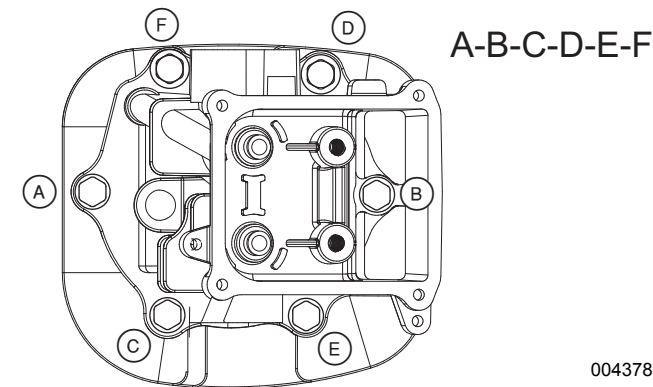

Figure 13-14. Cylinder Head Torque
- 3. See Figure 13-14. Tighten head bolts in sequence shown to 22 ft-lb (29.9 Nm) torque.